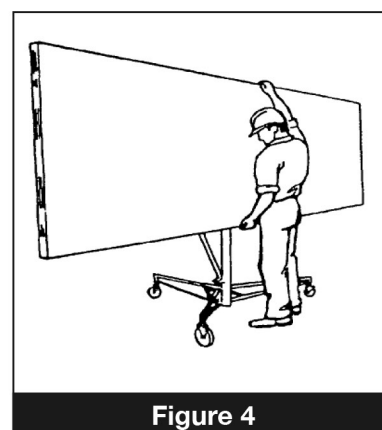

Figure 4
5. Hold the plasterboard sheet with its face paper toward the tilted cradle and load the panel onto the lift. Set the panel onto the support hooks and carefully lean it against the cross arms (see Figure 4).